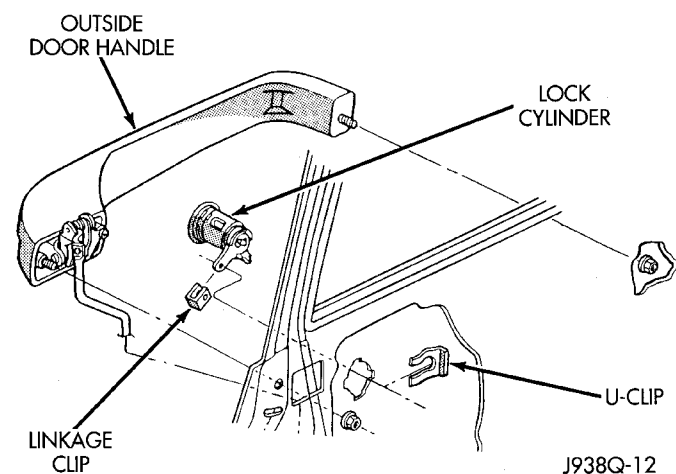

Fig. 4 Door Lock Cylinder Remove/Install
(8) Pull the front door trim panel away from the inner door panel far enough to access and unplug the wire harness connectors from the door module and, if the vehicle is so equipped, from the front door courtesy lamp.
(9) Pull the watershield away from the rear access holes in the front door inner panel.
(10) Remove the U-clip retainer that secures the lock cylinder to the outer door panel (Fig. 4).